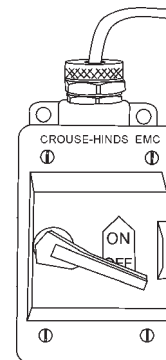

Figure 23. Power ON/OFF Switch (OFF)
- Place the power **ON/OFF** switch (Figure 23) in the **OFF** position (down).